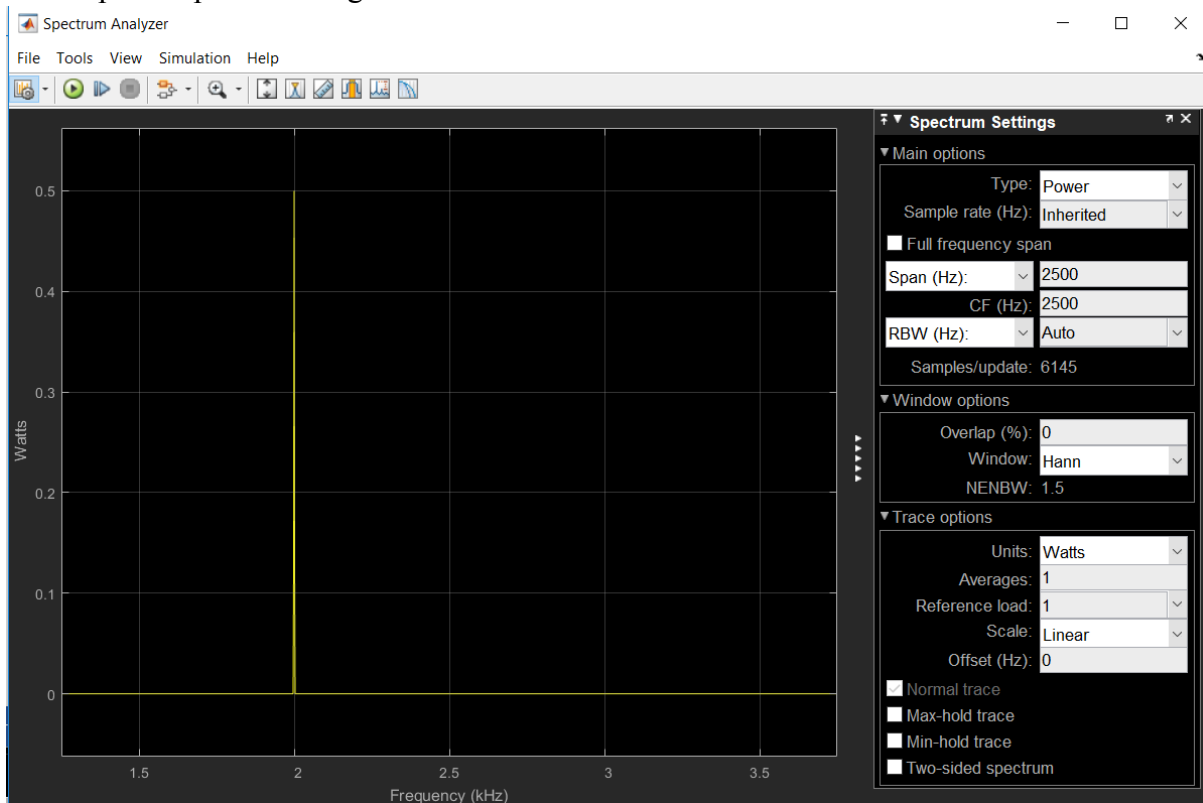

Fig. 3: Spectrum Analyzer settings and simulation results
The simulation can be run by pressing the green Play button or by typing CTRL+T. The spectrum analyzer can be opened by double clicking it. Spectrum analyzer settings are set by going to View and then selecting Spectrum Settings. Fig. 3 shows the spectrum analyzer settings and the spectral plot resulting from the simulation.
The sampling rate employed in the simulation is $F_s = 10\text{kHz}$, which allows for examination of frequencies in the range 0 to 5kHz. The center frequency (CF) is set to 2500Hz (the center of this frequency range), and the Span to 2500Hz. This allows for evaluation of the frequency range 0 to 5kHz. Altering the center frequency or span alters the range of frequencies visible in the spectral plot of Fig. 3 (run the simulation and experiment with different center frequency and span settings).
As expected and predicted by the theoretical discussion at the beginning of the lab, Fig. 3 shows a large spectral spike at $F = 2\text{kHz}$ (the frequency of the sinusoid). The figure also shows that the power of the sinusoid is 0.5W, as predicted.